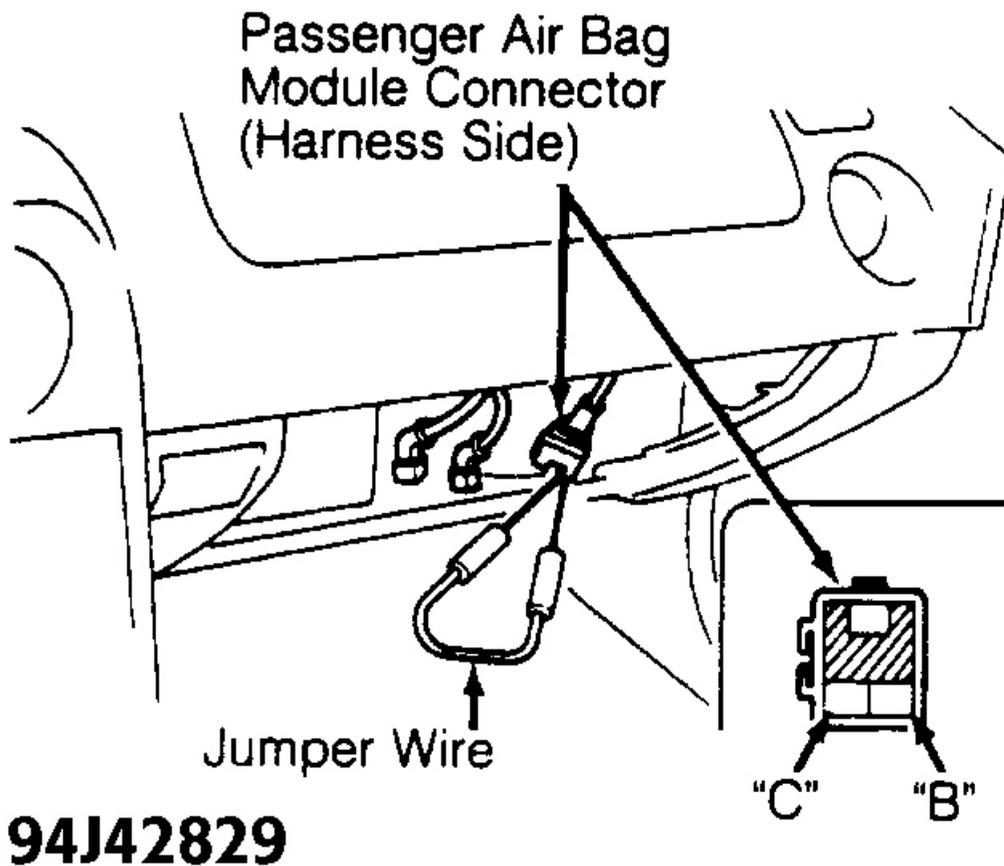

Fig. 12: Passenger Air Bag Module Connector Terminal ID (Harness Side)
(harness side) terminals "B" and "C". See **Fig. 12**.
1. Disable air bag system. See DISABLING & ACTIVATING AIR BAG SYSTEM . Connect a one ohm resistor (rated power one watt) between passenger air bag module connector (harness side) terminals "B" and "C". See Fig. 12 .